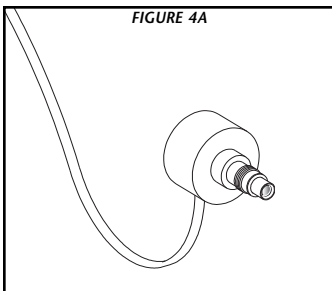

FIGURE 4A
1. Mineral deposits and sediment may accumulate on the sensor window decreasing the UV energy detected. Good maintenance of pre-treatment equipment will reduce the accumulation of residues. If the system indicates that the UV intensity is low, one cause may be a stained quartz sleeve and/or sensor window (Figure 4a). If necessary, remove the sensor assembly and proceed with cleaning process. Repeat the process as often as necessary to keep the sensor window and quartz sleeve clean.